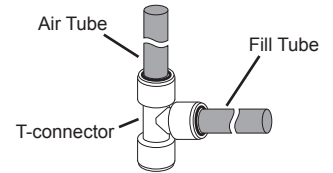
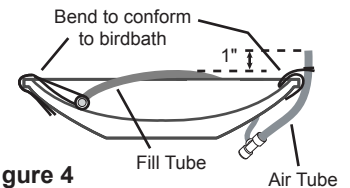
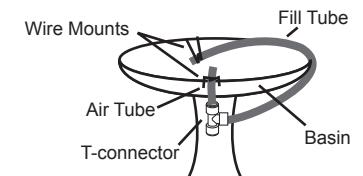

Figure 3
Figure 4
Figure 5
4) The Bubble Separator with the Air Tube and Fill Tube is shown in Figure 3. Using the two Wire Mounts, attach the Air Tube and Fill Tube to the side of the birdbath as shown in Figure 4 by bending the Wire Mounts to fit the side of the birdbath (see Figure 4). It is important that the T-connector be suspended **below** the birdbath basin. The Fill Tube exits from the side of the T-connector and should be mounted such that it hugs the rim of the birdbath as depicted in Figure 5. It may be cut to a convenient length as needed. The Air Tube should be positioned, or trimmed, so that it extends one inch above the Fill Tube where it crosses the rim (see Figure 4).